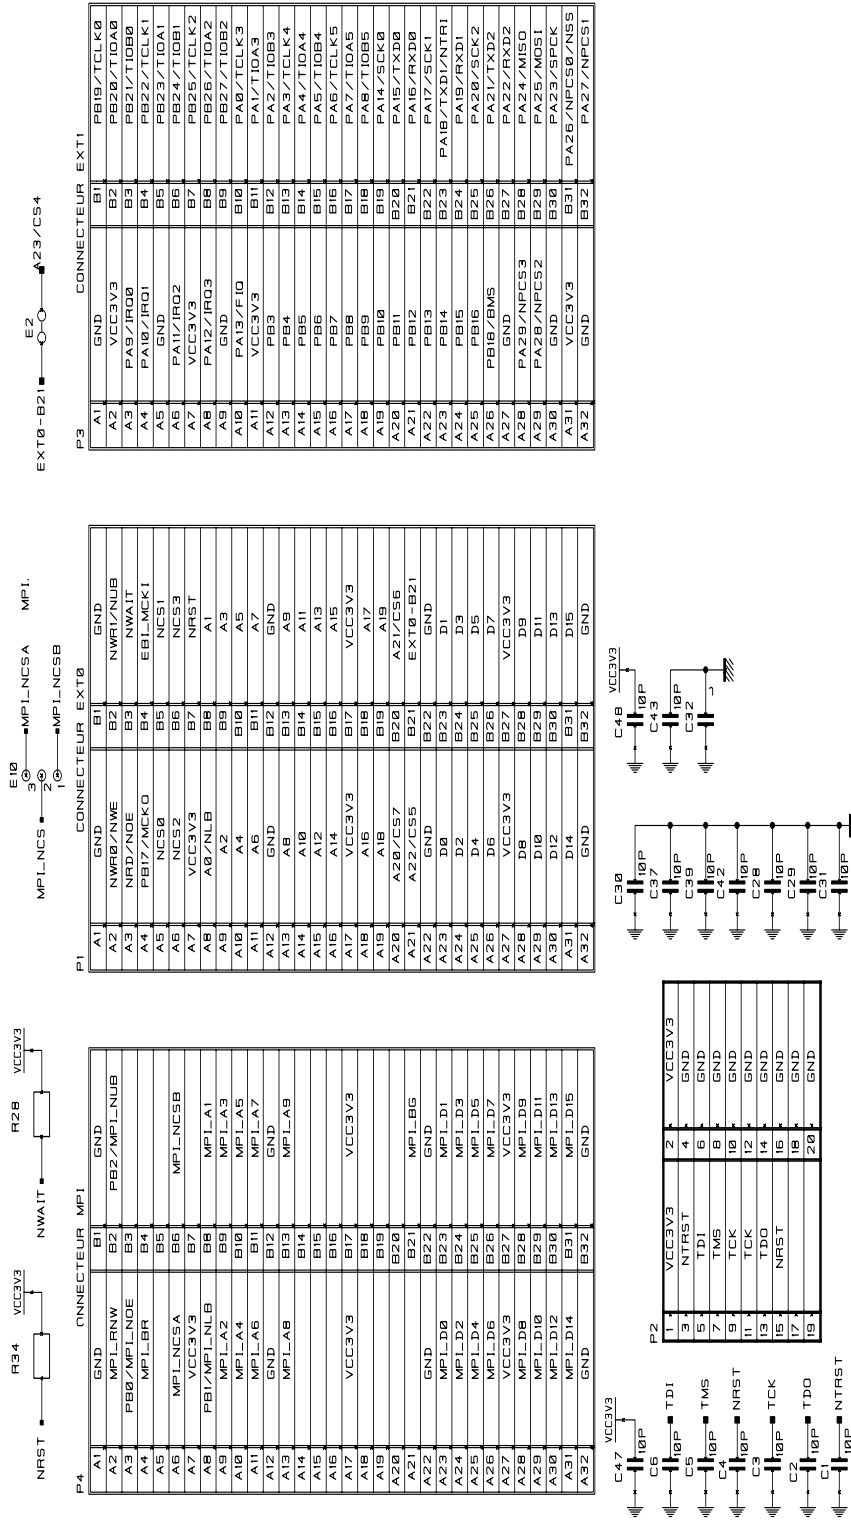

Figure 6-5. Push Buttons, LEDs and Serial Interface
- Figure 6-5. Push Buttons, LEDs and Serial Interface
- P3 = Serial A (Figure 6-5)
- P4 = Serial B (Figure 6-5)